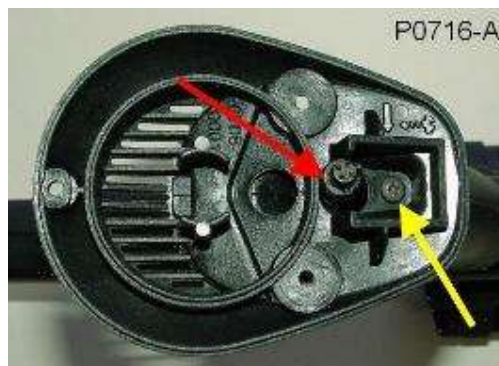

Figure 43: Correct Position of Wiring Loom Plug (Red Arrow).
- Ensure the wiring loom plug emerges from the handle into the speaker pod in the correct position as shown in Figure 43.
- On older F3 speaker pods, using the unique screw (Figure 43) secure the speaker pod to the handle. Newer F3 detectors do not require this screw.